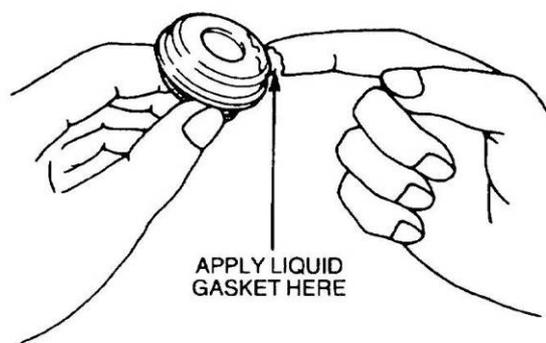

Figure 64 Installation of the Water Pump Housing Seals
- c. Apply liquid gasket to the contact surfaces of the new seals (Figure 64) and press the seals into the housing.